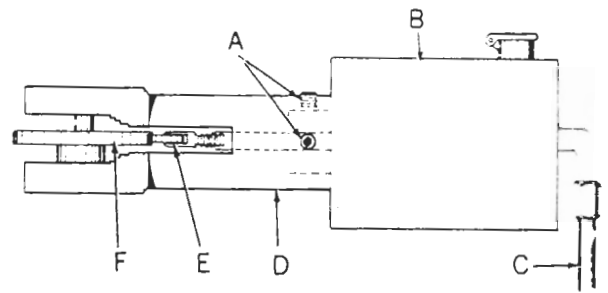

Figure 18
3. Remove hydraulic hose (C, Fig. 18); use container to catch oil.
4. Loosen the two set screws (A) and remove upper cylinder (B) and rod assembly (E) from housing (D).
7. Remove rod (E, Fig. 18) from housing (D) and insert rod into upper cylinder (B) making sure socket set screw end is exposed.
8. Hold speed control firmly against low speed stop while mounting upper cylinder (B) against housing (D)—secure with set screws (A).